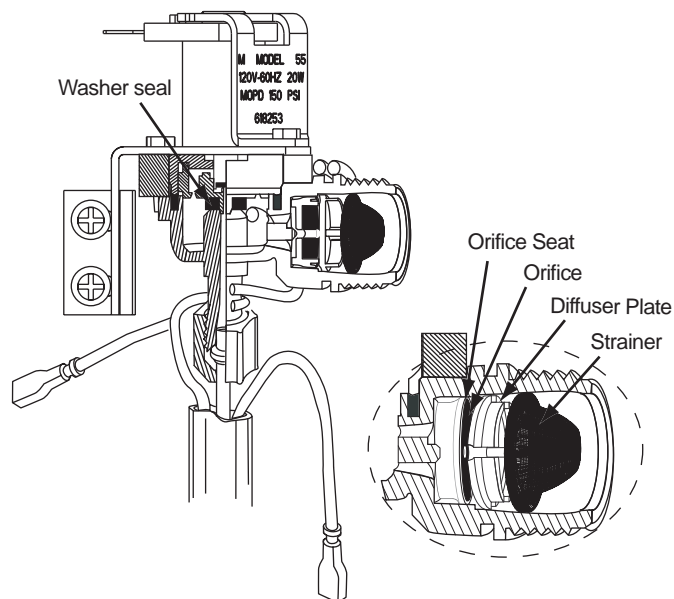

Figure 49. Solenoid water valve components
The water valve inlet strainer should be checked annually for scale and sediment deposits. The inlet connection internal components should only be checked when the mold overfills. To access the strainer and the components housed in the inlet fitting (see Figure 49):
3. Check strainer position. If the strainer is seated approximately 1/8 inch in the fitting, the orifice seat, orifice, diffuser plate and strainer are in their correct position. A creased strainer end usually indicates that the diffuser plate, orifice, and orifice seat are not in their correct position. These components should be repositioned as shown in Figure 49. To reposition components correctly: